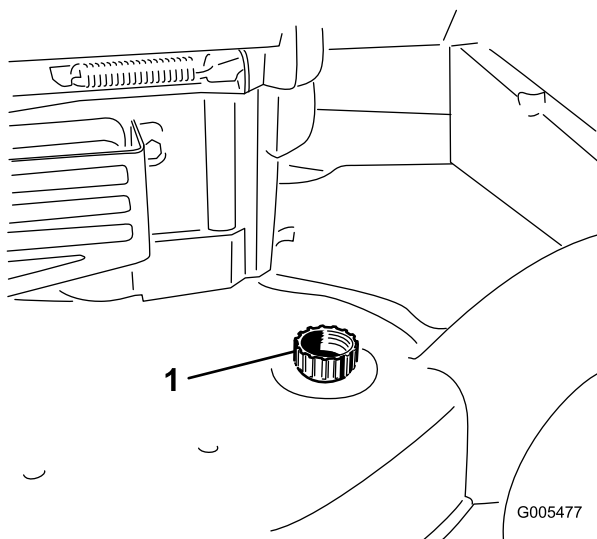

Figure 39
3. Attach a garden hose that is connected to a water supply to the washout port on the mower housing (Figure 39).